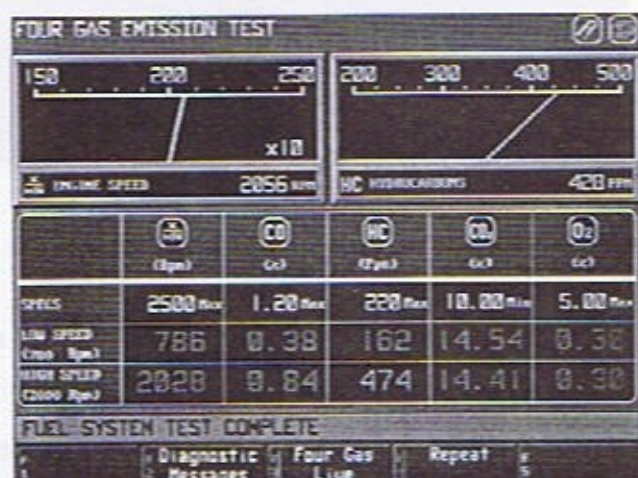

Figure 3-12
2. Follow the screen prompt and adjust the vehicle's engine to run at the manufacturer's idle RPM. When the analyzer detects the RPM within spec, the analyzer will read the RPM and dilution values, and will display the results on the screen, with a shadow function to show the acceptable range (see Figure 3-12).